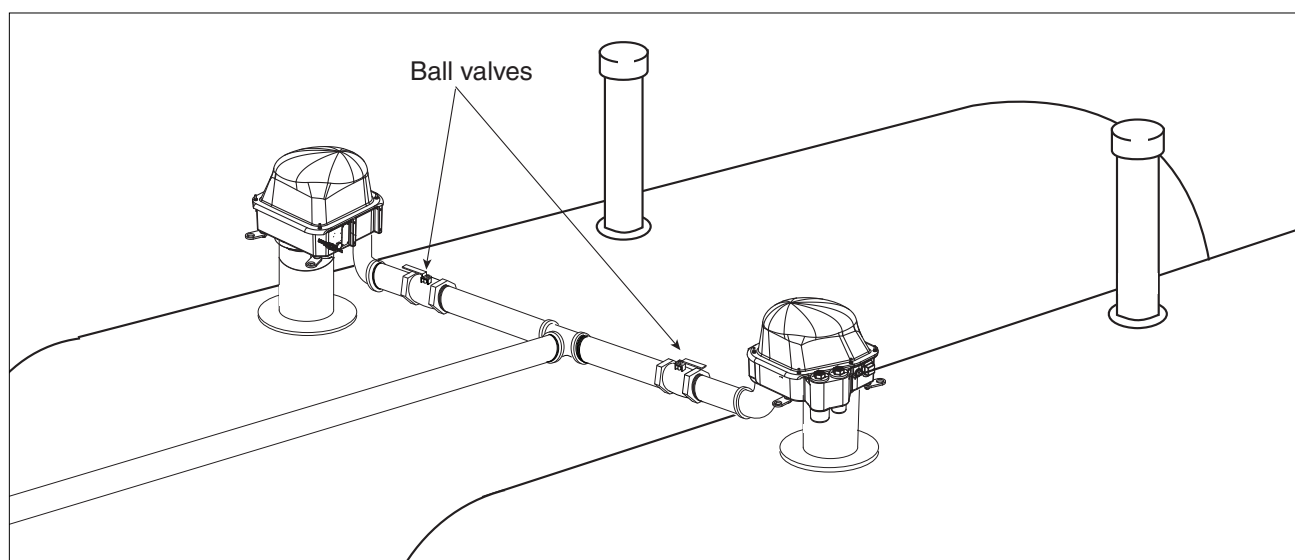

Figure 27. Tandem Pumps
When greater flow rates are needed, two pumps may be installed in the same piping system by means of a manifold. If installed according to the Figure 27, tandem systems offer backup support so operations can continue if one pump stops working.
7. Remove the two extractable lock-down nuts (see Figure 27). The springs on the lock-down studs between the extractable's flange and the manifold will push the extractable up, breaking the seals.